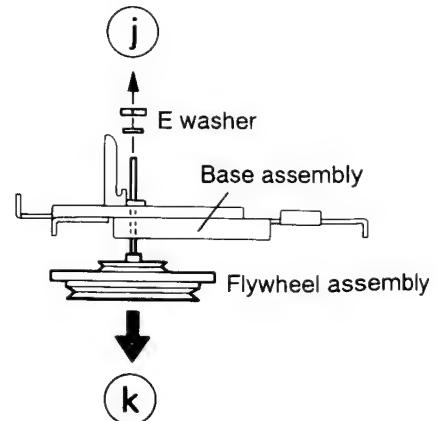

Fig. 5-24
(See Fig. 5-24)
15. At the position where the CD tray assembly has stopped, pull out the CD tray assembly while pressing the two pawls (G and G') on the back side of CD tray assembly (See Fig. 5-24). In this case, it is easy to pull out the assembly when it is pulled out first from the stage CD tray assembly.